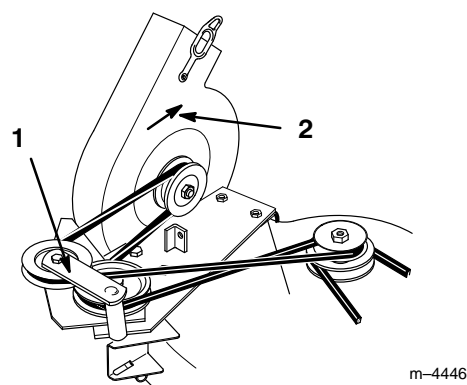

Figure 15
2. With the blower swung out in the open position, install the blower drive belt between the idler pulley bracket and pulley. Then loop the belt around the remaining pulleys (Fig. 15). Install the other end of the belt over the blower drive pulley on the spindle.
3. Check direction of blower rotation (Fig. 15).